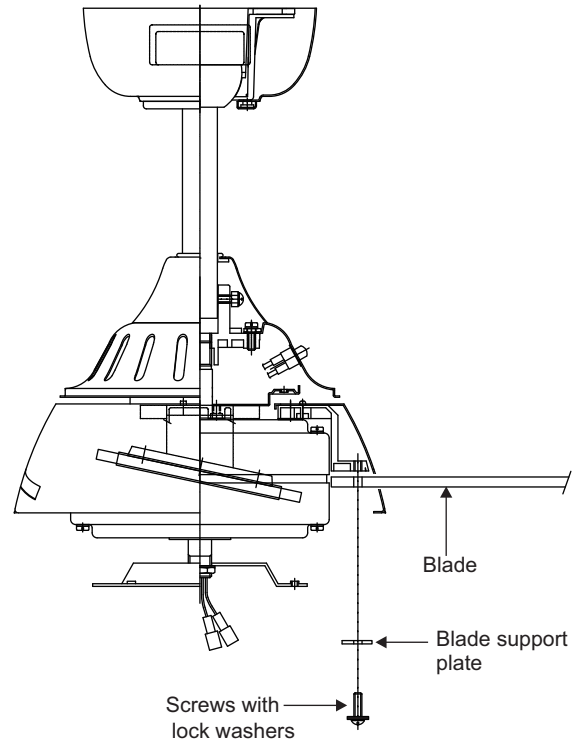

Figure 14
**Step 1** Insert the blade through the slot on the motor housing. Align holes and fasten the blade to the motor with provided screws and blade support plates washers. (Fig. 14)